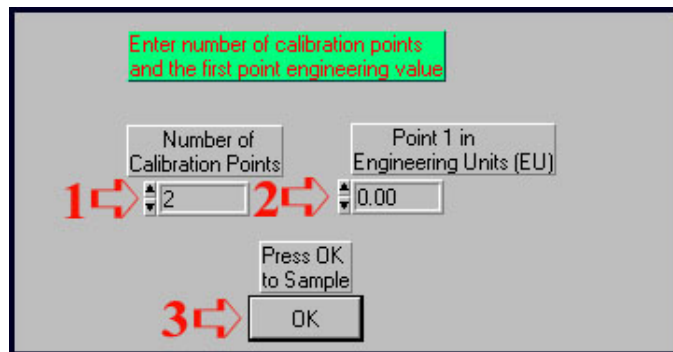

Figure 7
- 111 On the “Enter number of calibration points and the first point engineering value” screen, select the up or down arrow to obtain “2” under “Number of Calibration Points.” See Arrow 1 in Figure 7.
Use the keyboard to enter the value, “0.00” under “Point 1 in Engineering Units (EU).” See Arrow 2 in Figure 7.
Select “OK.” See Arrow 3 in Figure 7. The system is set to perform a Zero/Span calibration.